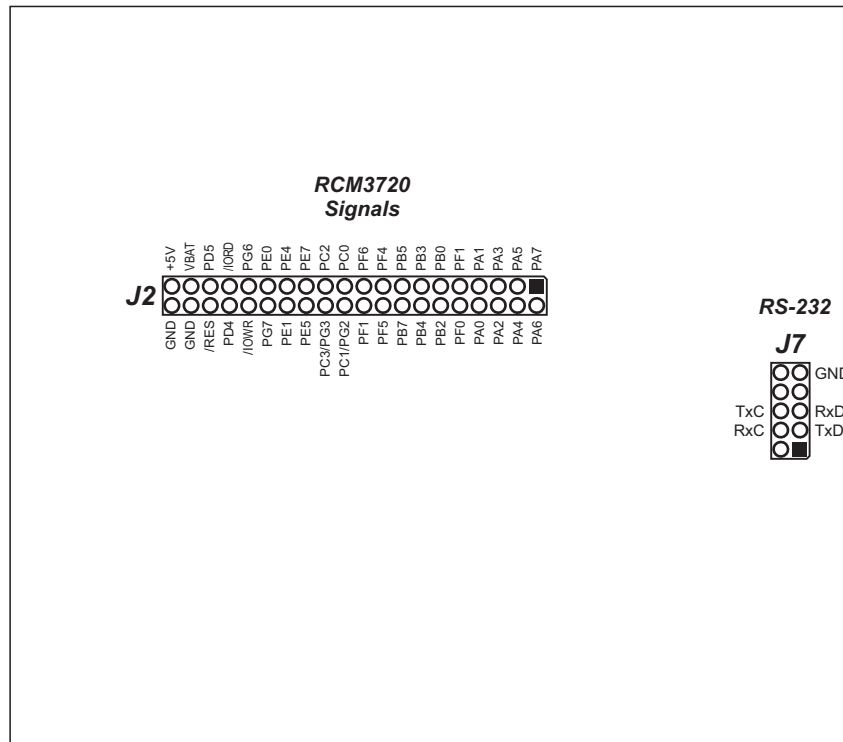

Figure B-14. RCM3720 Prototyping Board Pinout
- **Module Extension Headers**—The complete pin set of the RCM3720 module is duplicated at header J2. Developers can solder wires directly into the appropriate holes, or, for more flexible development, a 2 × 20 header strip with a 0.1" pitch can be soldered into place. See Figure B-14 for the header pinouts.
Figure B-14 shows the RCM3720 Prototyping Board pinouts.